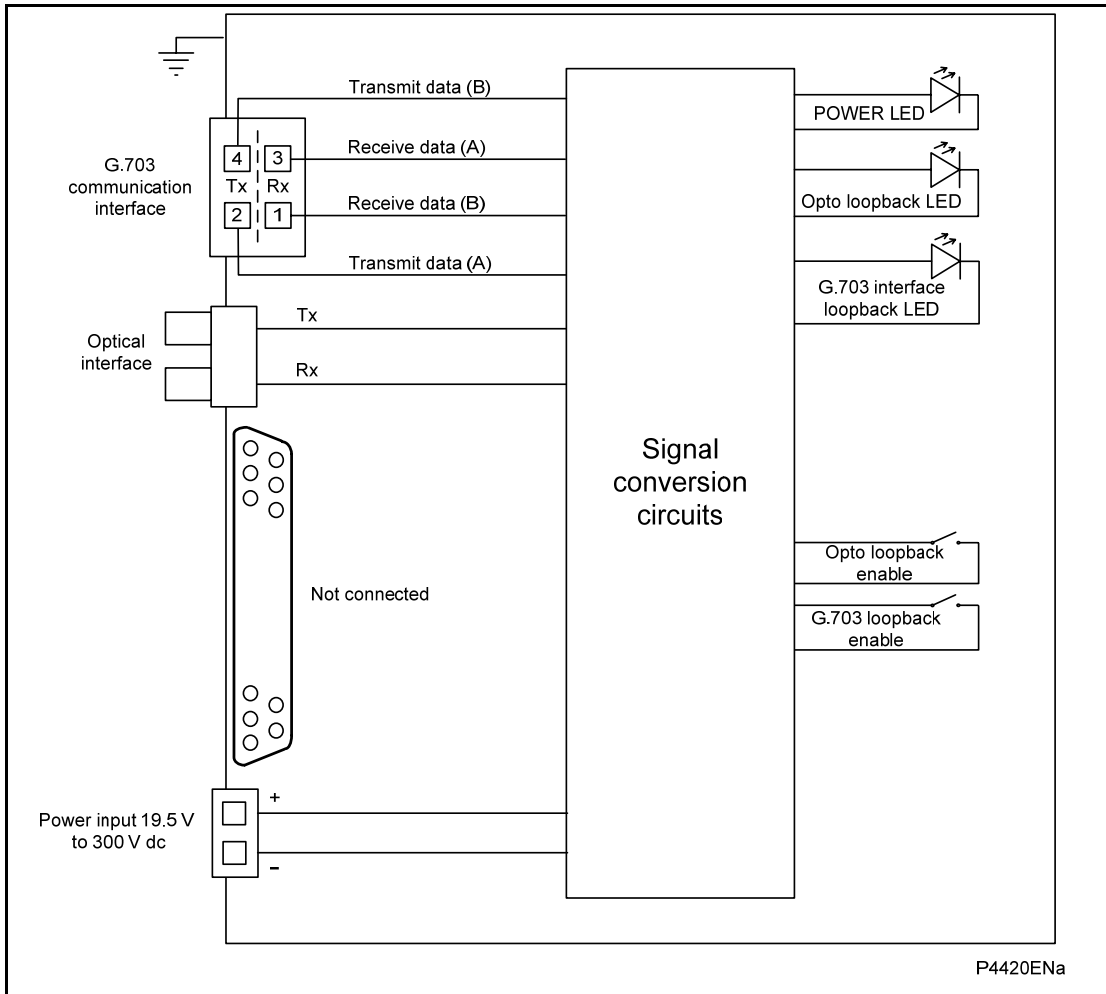

Figure 3: P591 connections to ITU-T G.703
1. Remove any external wiring from the G.703 terminals at the rear of each P591 unit. Loopback the G.703 signals on each unit by connecting a wire link between terminals Transmit data (A) and Receive data (A), and a second wire between terminals Transmit data (B) and Receive data (B). See Figure 3.